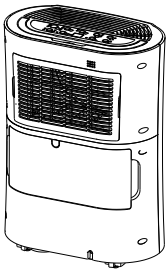

Fig. 4
2. Unplug the power cord. Ensure a good access to the back panel (Fig. 4).